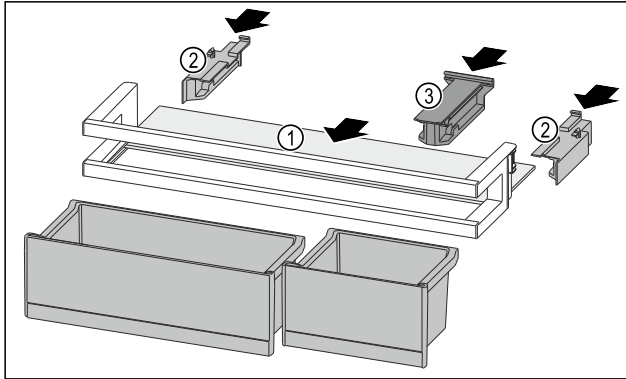

Fig. 91
- Push the shelf Fig. 91 (1) into the side cutouts.
- Insert the side parts Fig. 91 (2).
- Insert the retaining part Fig. 91 (3).